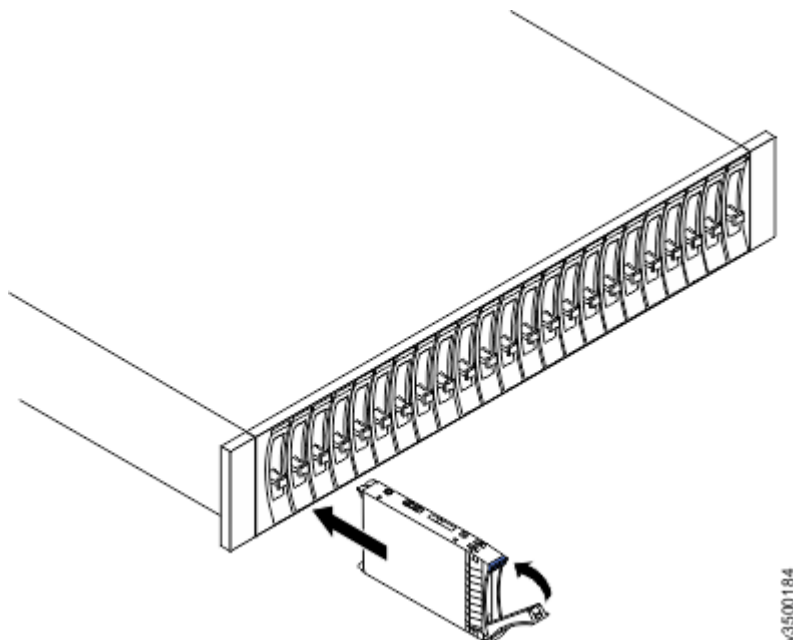

*Figure 77. Unlocking and removing a 2.5-inch drive from its slot*
5. Pull out the tray handle to the open position (see Figure 77 on page 138).